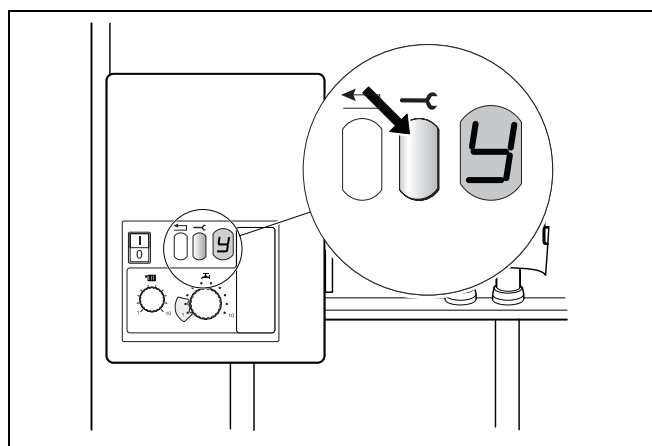

fig. 37 Service button
- When the burner has fired after approx. 30 seconds, press the service button (fig. 37) until "Y" is shown on the display.
- Press the service button (fig. 37) until "Y" is shown on the display.
- After the burner has fired, press the service button (fig. 37) until "Y" is shown on the display.